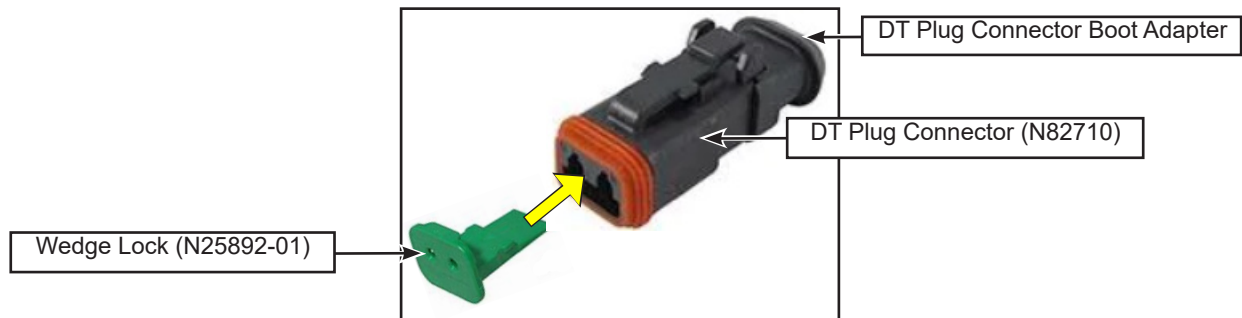

Figure 12 - Wedge Lock Insertion into Deutsch DT Plug Connector
- 1.20. Insert the WHITE wire terminal into position 1 and the YELLOW wire terminal into position 2 of the DT plug connector PN N82710. Insert the wedge lock PN N25892-01 into the DT plug connector (see figure 12).